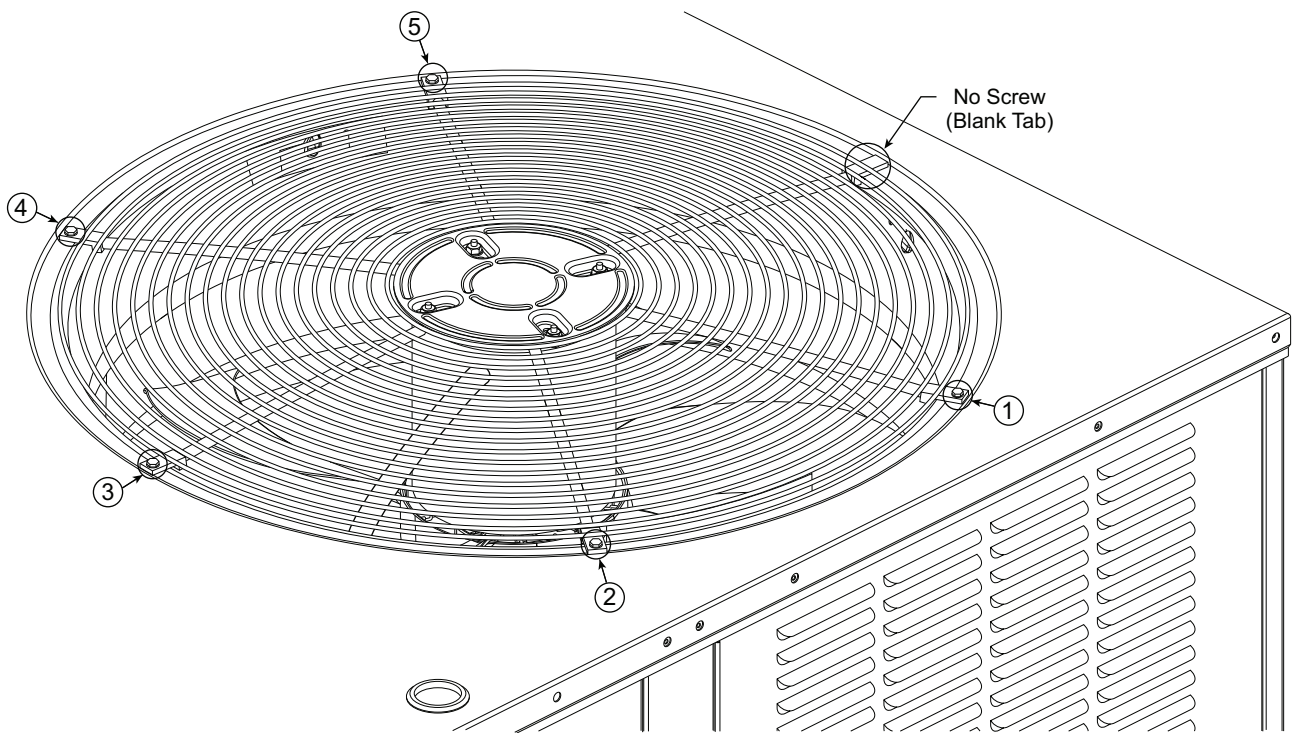

Fig. 30 — Condenser-Fan Assembly — Screw Pattern Sequence
6. Replace condenser-fan assembly. When replacing the condenser-fan assembly follow the screw pattern sequence shown in Fig. 30. The screws must be replaced in the sequence shown in the figure.